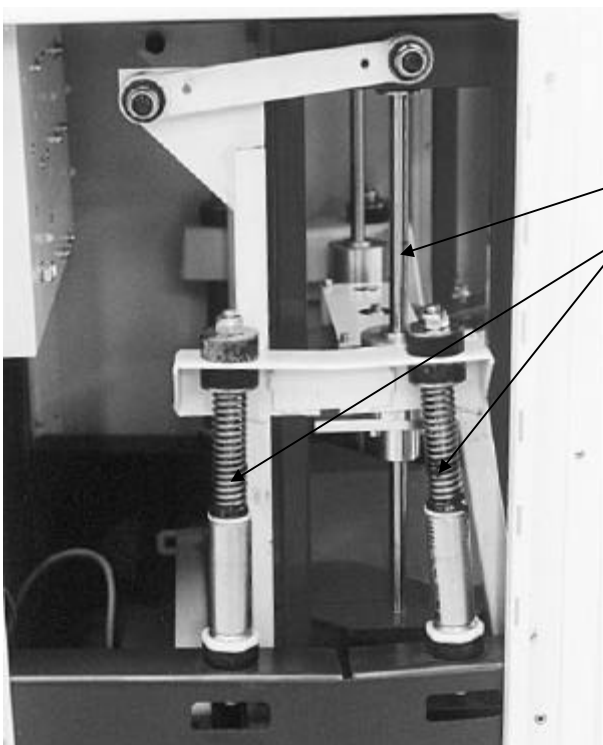

figure 5
- Lubricate the shock absorber shafts (4x) (see figure 5, number 1).
- Lubricate the guide shafts (2x) (see figure 5, number 2).